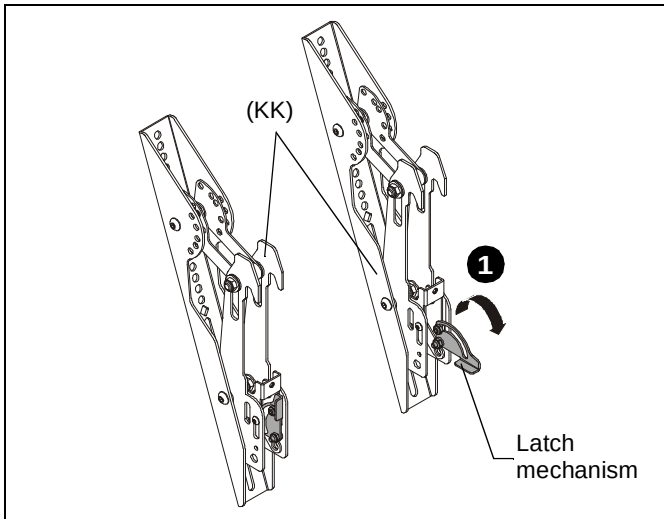

Figure 9
(See Figure 9)
1. Ensure that the latch mechanisms on interface brackets (KK) are already lowered. (See Figure 9)